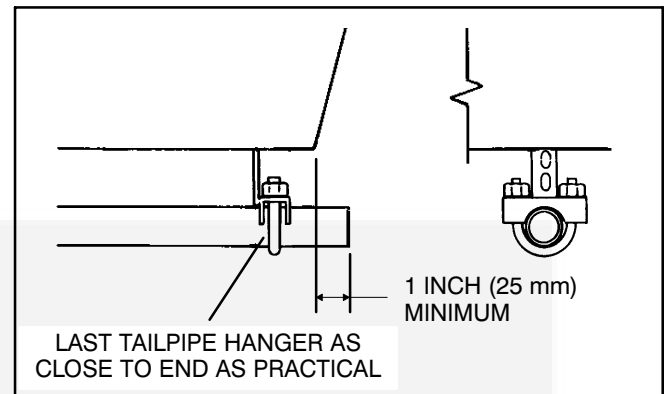

FIGURE 8-6. TERMINATING THE TAIL PIPE
6. Do not terminate the tailpipe underneath the vehicle. Extend it a minimum of 1 inch (25 mm) beyond the perimeter of the vehicle (Figure 8-6). *Support the end of the tail pipe such that it cannot be pushed in and up under the skirt of the vehicle.*